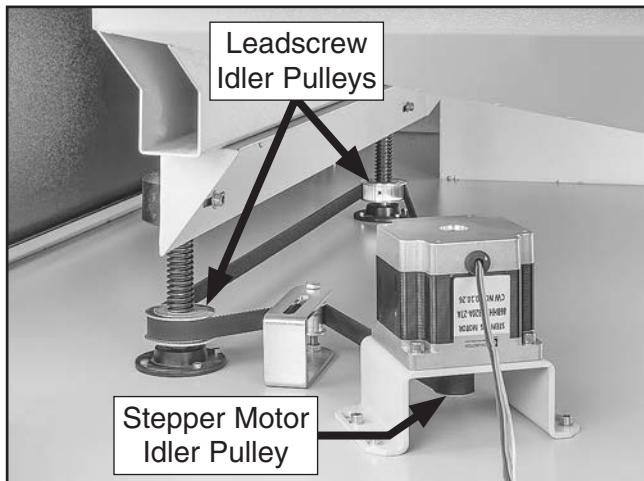

Figure 91. Synchronous belt around pulleys.
- Install replacement synchronous belt around front and rear leadscrew idler pulleys, and stepper motor idler pulley (see **Figure 91**).